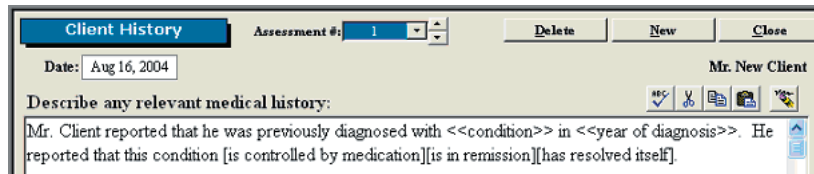

Figure 4-5. Updated Template Code
Step 5. While in the home template screen, click within the white text box to place the cursor and paste in the code. You can paste by either pressing **CTRL-V** on your keyboard, clicking on the **Paste** icon within the home template screen, or pulling down the Edit menu in the taskbar selecting **Paste** (Figure 4-5).
To create or access a custom template, click on one of the categories listed on the left side of the Home Screen. Click on the template icon in the lower right hand corner of the screen (Figure 4-5).